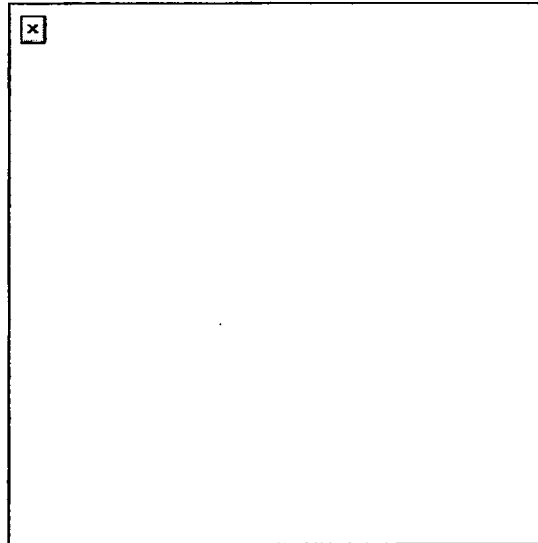

Figure 2. Removal of backplate pin.
- (1) Place the safe/fire switch on fire (F).
- (2) Open the top cover.
- (3) Using the rim of a spent cartridge, pull the back plate pin straight out (Figure 2).